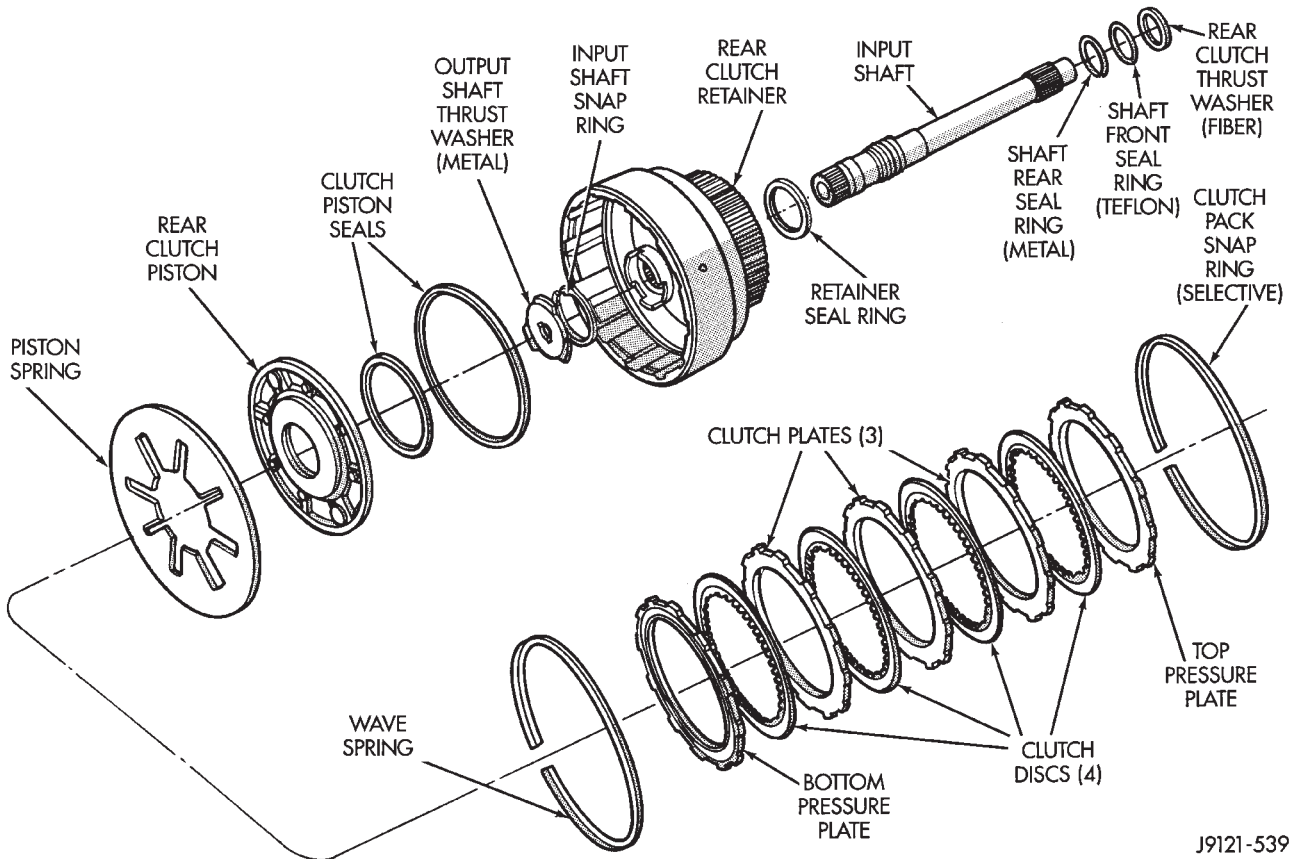
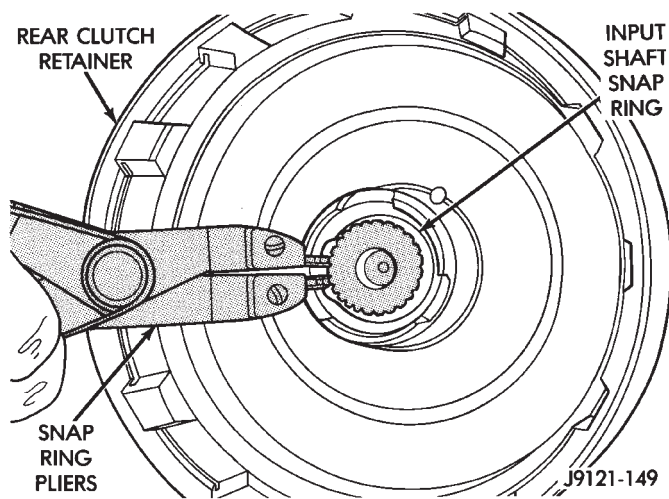

Fig. 164 Rear Clutch Components
Fig. 165 Removing/Installing Input Shaft Snap-Ring
(1) Remove fiber thrust washer from forward side of clutch retainer.
(2) Remove input shaft front/rear seal rings.
(3) Remove selective clutch pack snap ring (Fig. 164).
(4) Remove top pressure plate, clutch discs, steel plates, bottom pressure plate and wave snap ring and wave spring (Fig. 164).
(5) Remove clutch piston with rotating motion.
(6) Remove and discard piston seals.
(7) Remove input shaft snap-ring (Fig. 165). It may be necessary to press the input shaft in slightly to relieve tension on the snap-ring.
(8) Press input shaft out of retainer with shop press and suitable size press tool. Use a suitably sized press tool to support the retainer as close to the input shaft as possible.
(3) Lubricate splined end of input shaft and clutch retainer with transmission fluid. Then press input shaft into retainer. Use a suitably sized press tool to support retainer as close to input shaft as possible.
(4) Install input shaft snap-ring (Fig. 165).
(5) Invert retainer and press input shaft in opposite direction until snap-ring is seated.
(6) Install new seals on clutch piston. Be sure lip of each seal faces interior of clutch retainer.
(7) Lubricate lip of piston seals with generous quantity of Mopar® Door Ease. Then lubricate retainer hub and bore with light coat of transmission fluid.
(8) Install clutch piston in retainer. Use twisting motion to seat piston in bottom of retainer. A thin strip of plastic (about 0.020" thick), can be used to guide seals into place if necessary.
(11) Install bottom pressure plate (Fig. 164). Ridged side of plate faces downward (toward piston) and flat side toward clutch pack.
(12) Install first clutch disc in retainer on top of bottom pressure plate. Then install a clutch plate followed by a clutch disc until entire clutch pack is installed (4 discs and 3 plates are required) (Fig. 164).